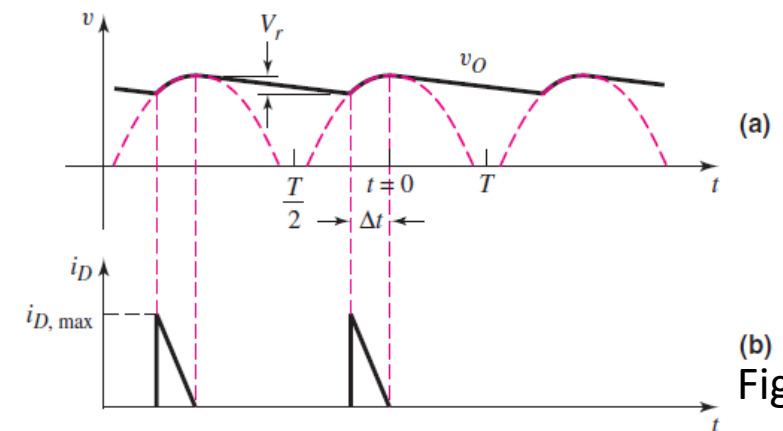

Figure 2.10
- The capacitor current during the diode charging time is approximately triangular and is shown in Figure 2.10(b).